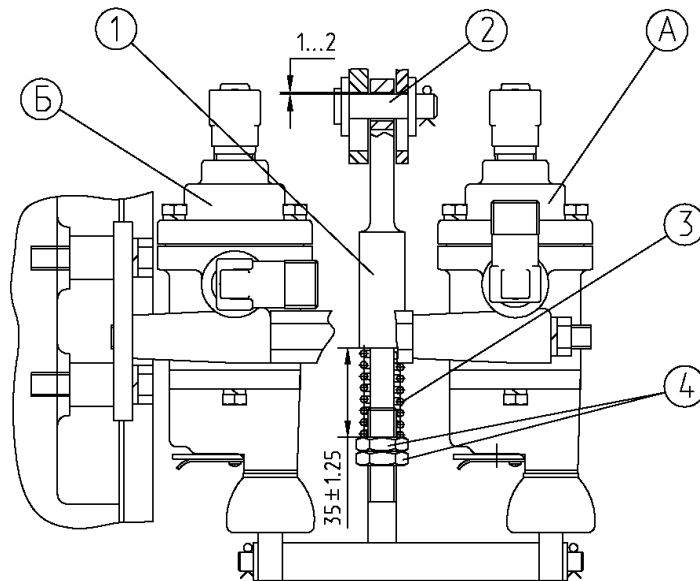

Figure 2.6 — Check and adjustment of drive of single-wire and two-wire brake valves of pneumatic system
Check the drive of the single-wire brake valve “A” (Figure 2.6) as follows:
4. Check availability of the clearance gap of 1 to 2 mm between the pin 2 (Figure 2.6) and the upper edges of the grooves in the arms. If there is no gap, remove the cotter pin and remove the pin 2 and adjust the length of the arm by turning the end 1.
5. Check and adjust if necessary compressing of the spring 3 to a size of  $35\pm 1.25$  mm by rotating the nuts 4 and lock them. Check valve operation as per item 3.
**ATTENTION:** WITH THE BRAKE VALVE "A" (FIGURE 2.6) AND ITS DRIVE CORRECTLY ADJUSTED, PRESSURE AS PER THE PRESSURE GAGE CONNECTED TO THE COUPLING HEAD WITH A BLACK CAP MUST DROP TO ZERO IN CASE OF A FULL TRAVEL OF THE INTERLOCKED BRAKE PEDALS OR WHEN THE PARKING BRAKE IS FULLY ENGAGED.
Check the drive of the two-wire brake valve "B" (Figure 2.6) as follows:
4. Check availability of a gap of 1 to 2 mm between the pin 2 (Figure 2.6) and the upper edges of the grooves in the arms. If there is no gap, remove the pin 2 and adjust the length of the arm by turning the end 1.
**ATTENTION:** WITH THE BRAKE VALVE "B" (FIGURE 2.6) AND ITS DRIVE CORRECTLY ADJUSTED, PRESSURE AS PER THE PRESSURE GAGE CONNECTED TO THE COUPLING HEAD (WITH A YELLOW CAP) MUST BE EQUAL TO ZERO WHEN THE INTERLOCKED BRAKE PEDALS ARE NOT PRESSED AND WHEN THE PARKING BRAKE IS FULLY DISENGAGED.